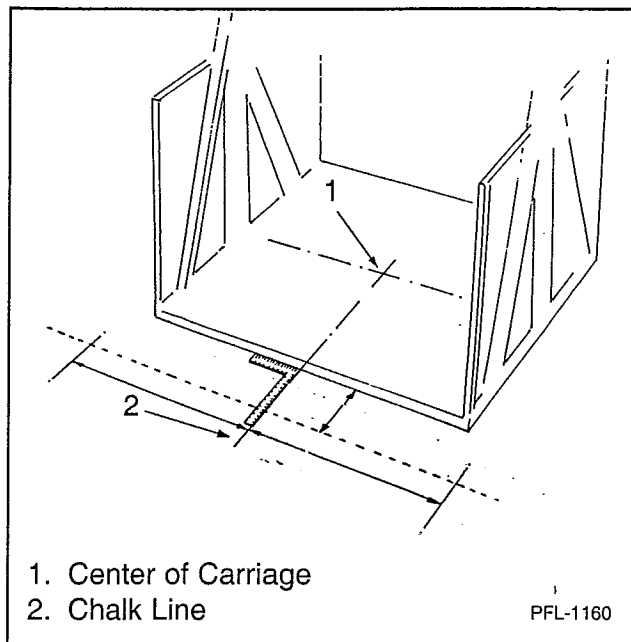

Figure 4
5. Locate and mark center of carriage. Using a carpenter square held on the front edge of the carriage, mark a chalk line on the floor to ensure center of the gate is on the center line of the carriage. See Figure 4.